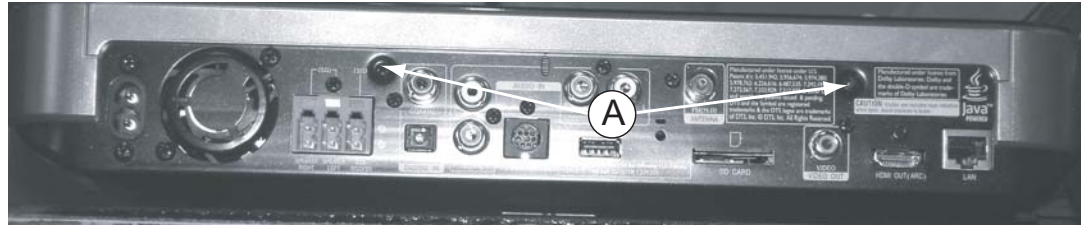

Figure 1
- 1) Loosen 2 screws "A" at the back panel to remove the top cover as shown in figure 1.